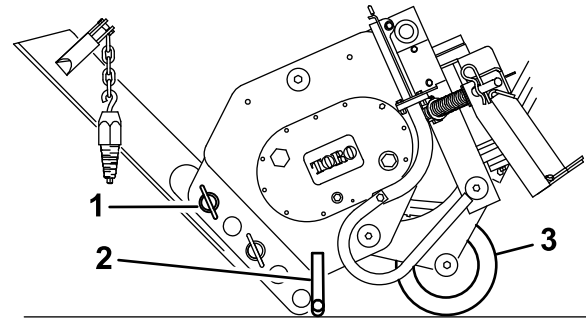

Figure 4
3. Swing the blade up and secure it using the lynch and clevis pin as shown in (Figure 4).
4. Tilt the plow forward and lower it to the ground or trailer, with the stand and couler supporting the weight of the plow (Figure 4).
3. Swing the blade up and secure it using the lynch and clevis pin as shown in Figure 4.